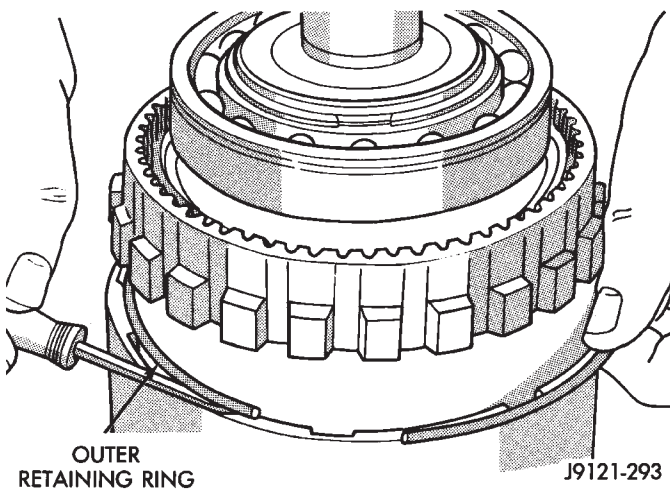

Fig. 31 Removing Clutch Drum Outer Retaining Ring
(22) Remove direct clutch drum outer retaining ring (Fig. 31).
(8) Install clutch drum outer retaining ring (Fig. 31).